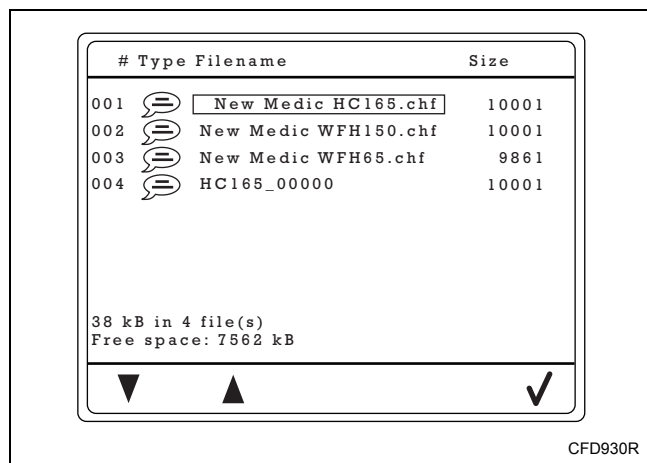

Figure 52
1. Use the keypads below the Navigation icons to select the Help file to write to the machine. Refer to *Figure 52*.
2. Confirm by pressing the keypad below the Check icon. Refer to *Figure 52*.